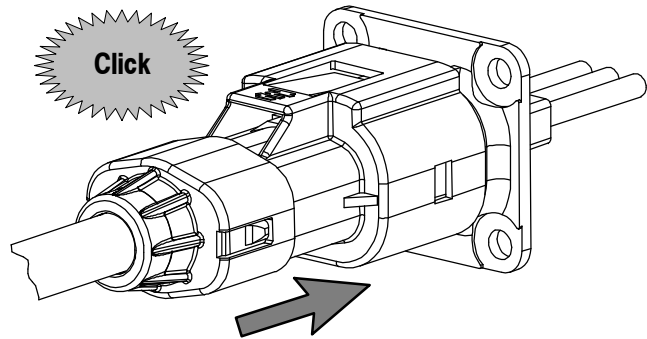

Figure 12
2. Push the HVA280 plug assembly and header assembly together until the main latch engages with a click. See Figure 12. If the connector halves do not fit together easily, check the following: